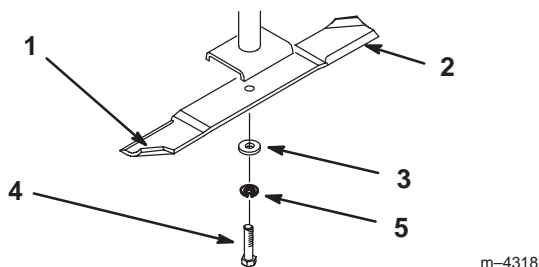
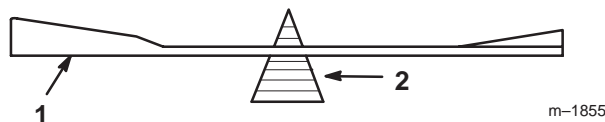

Figure 30
Figure 32
Hold the blade end using a rag or thickly-padded glove. Remove the blade bolt, flat washer, split lockwasher and blade from the spindle shaft (Fig. 30).
2. Check the balance of the blade by putting it on a blade balancer (Fig. 32). If the blade stays in a horizontal position, the blade is balanced and can be used. If the blade is not balanced, file some metal off the end of the sail area only (Fig. 30). Repeat this procedure until the blade is balanced.
1. Install the blade onto the spindle shaft (Fig. 30).
2. Install the flat washer, lock washer and blade bolt (Fig. 30). Torque the blade bolt to 85–110 ft-lb (115–150 N•m).